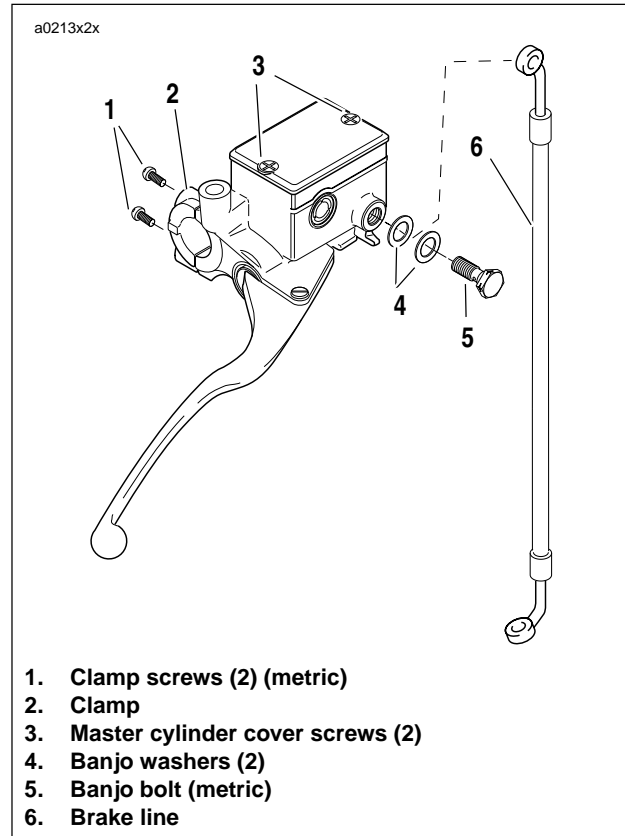

Figure 2-27. Front Master Cylinder
3. See Figure 2-27. Remove banjo bolt (6) (metric) and two banjo washers (4) to disconnect brake line (5) from master cylinder. Discard banjo washers.
1. See Figure 2-27. Fasten master cylinder to handlebar by installing clamp (2) and screws (1) (metric). Tighten to 80-120 in-lbs (9-14 Nm).
5. See Figure 2-27. Remove the two master cylinder cover screws (3), cover and cover gasket.
9. See Figure 2-27. Attach master cylinder cover and cover gasket with the two cover screws (3). Tighten to 9-13 in-lbs (1.0-1.5 Nm).